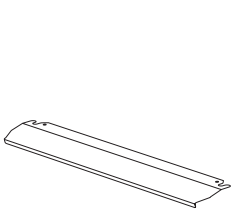

Figure 6
1. A safety panel is designed to protect control panel and the buttons when the oven is in grill mode. (figure 6)